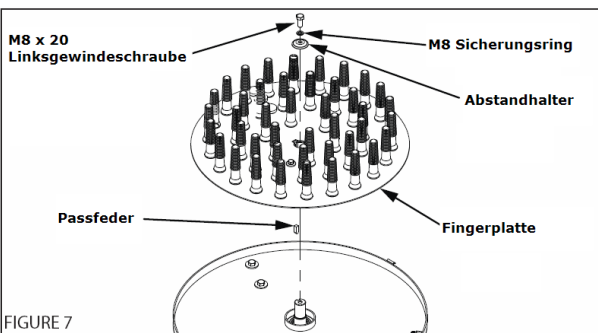

FIGURE 7
- Mount the finger plate equipped with fingers back onto the motor shaft (**FIGURE 7**). Insert feather key into the motor shaft, slide on finger plate and fix with screws (M8x20 LEFT THREAD!).